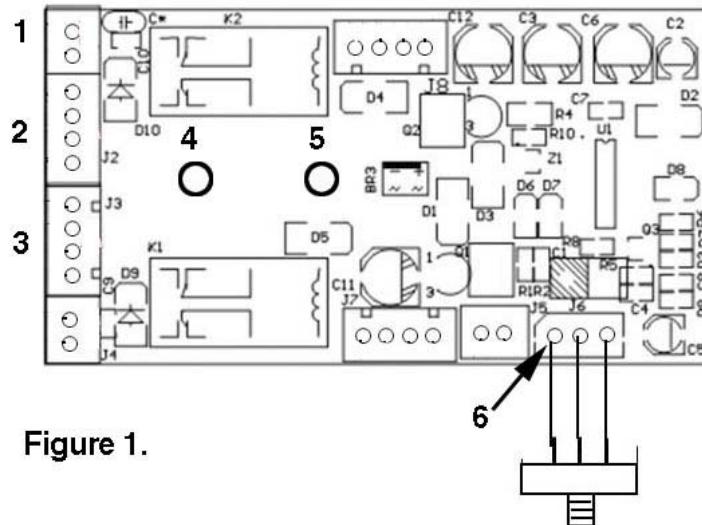

Figure 1.
Step 3: If not using bracket go to next step. Place plastic washer onto long bolt. Insert bolt into hole 4 or 5 (Figure 1) on the component side of the circuit board. Place bracket on backside of circuit and secure with nut. Insert short bolt into hole on locomotive from the bottom of the frame. Place bracket onto bolt on the top side of the frame and secure with nut. Go to Step 5.
Step 4: If not using bracket, insert long bolt into hole on locomotive from the bottom of the frame. With the component side facing up, place the circuit board over the bolt through hole 4 or 5 (Figure 1). Place plastic washer on bolt and secure with nut.
Step 5: Plug the switch with wire harness into the socket #6 shown on Figure 1. Determine mounting location of the switch. Use a 1/8" bit to drill a hole in center the switch mounting location. Insert the slide portion switch into the hole to mark the two smaller mounting holes. Using a metal object with a sharp point such as a nail or scribing tool, mark the position of the two mounting holes for the switch. Use a 3/32" bit to drill the holes. Position the switch on the top of frame with wires facing up. Insert through the large hole. Insert the small screws through the bottom of the frame into switch mounting holes and tighten.
Step 6: For single motored locomotives, plug one 4-wire harness into the reverse board socket #2(Figure 1). For dual motored locomotive plug the second 4-wire harnesses into the reverse board socket #3 (Figure 1).
Step 8: If you need power for a sound board, plug the 2-wire harness into socket #1(Figure 1). Please note: the red wire is connected to the roller pickups and the black is ground or outside rail.